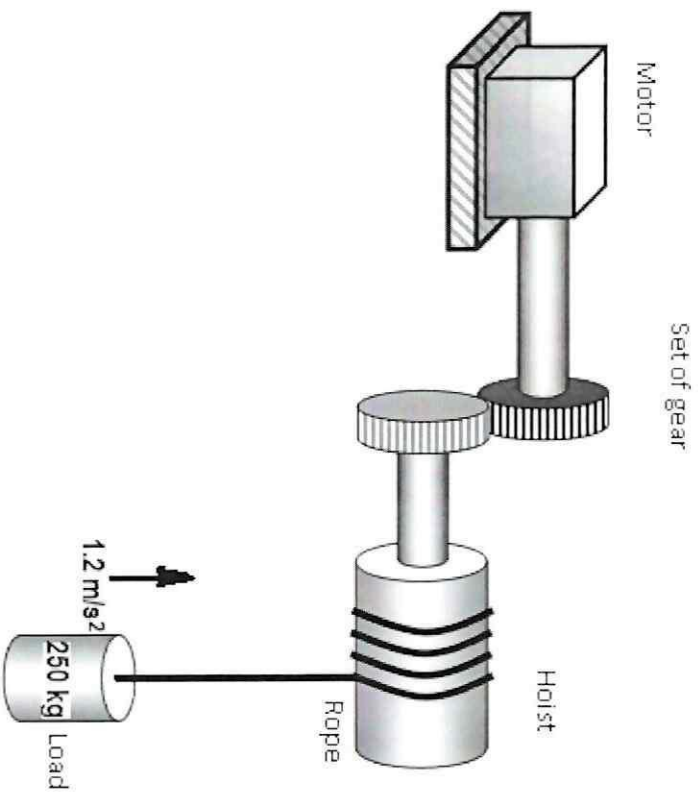

Figure Q4(a)
**Q4** (a) **Figure Q4(a)**, a motor is accelerating a mass, 250 kg load with acceleration of  $1.2 \text{ m/s}^2$  through a gear system as shown below. The rope that carries the load are encircled on a hoist with diameter 1.2 m. Gear for the hoist's shaft has 200 teeth, gear for motor shaft has 20 teeth. Gear efficiency is 90%. Mass and radius of gyration of each shaft is as below;